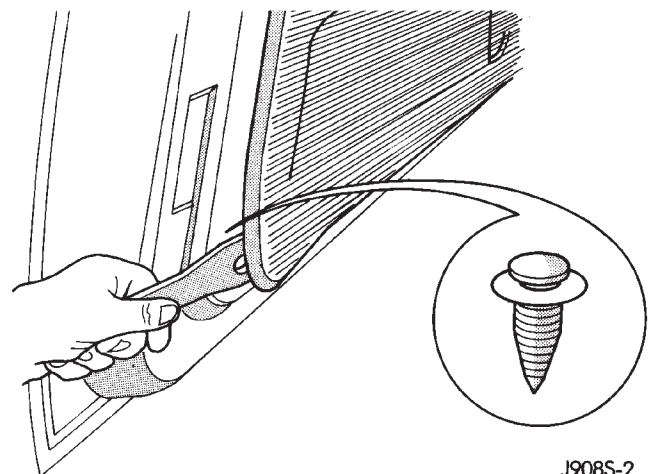

Fig. 4 Trim Panel Removal
(6) Pull the armrest straight out from the trim panel.
(7) Remove the trim panel with a wide flat blade tool (Fig. 4).